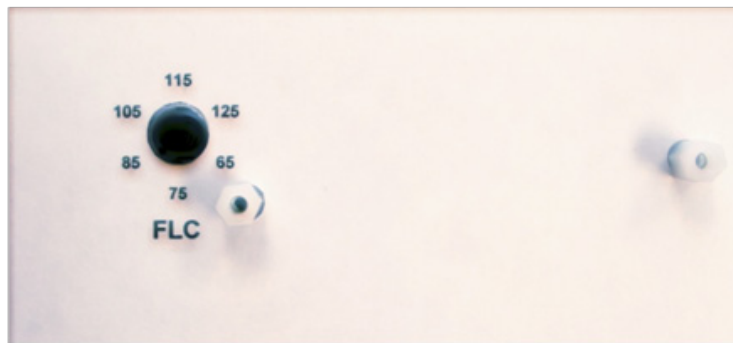

Figure 12. – FLC Pot
- In order for this functionality to work correctly, the FLC pot, shown in Figure 12, must be set to the motor nameplate The Full Load Amp (FLA). The FLA value will be found on the motor.